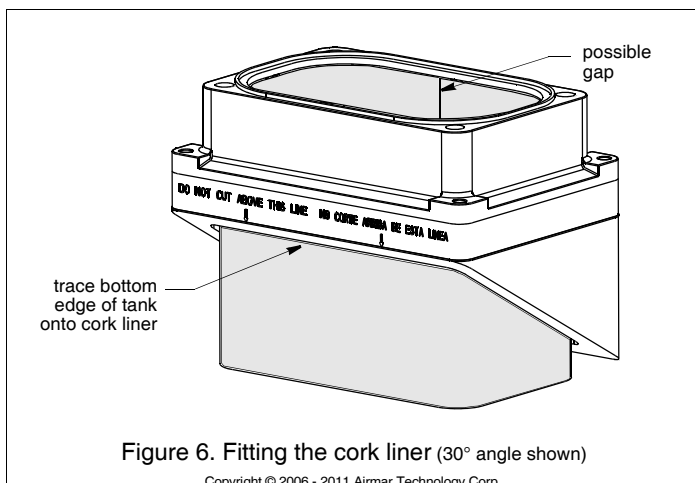

Figure 6. Fitting the cork liner (30° angle shown)
5. The tank is provided with a cork liner to reduce sound echoes. After the tank has been cut, wrap the cork liner around the *inside* of the tank (see Figure 6). Butt the sides of the liner along the center of the tallest side. Push the cork liner up against the top edge on the inside of the tank. Trace the bottom edge of the tank onto the liner.